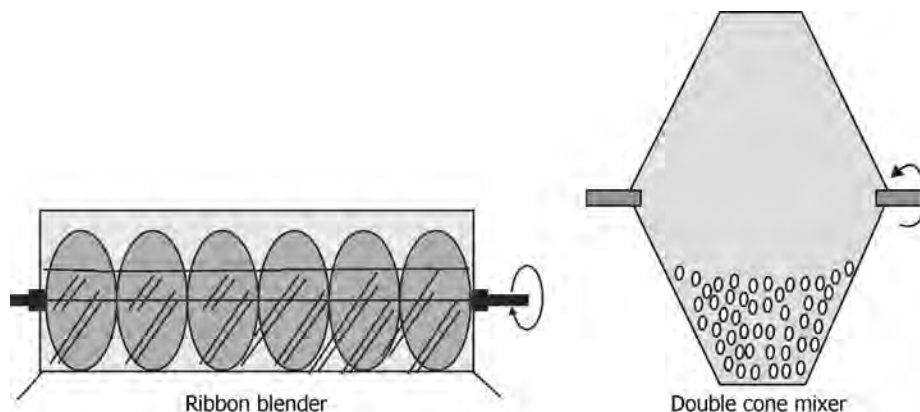

FIGURE 6.18 Ribbon blender and double cone mixer.
- The ribbon blender, shown in Figure 6.18, consists of a trough in which a shaft rotates with two open helical screws attached to it, one screw being right handed and the other left handed. As the shaft rotates, sections of the powder move in opposite directions, so particles are vigorously displaced relative to each other.
- A double cone blender consists of two cones mounted with their open ends fastened together. They are rotated about an axis through their common base. This mixer is shown in Figure 6.18.